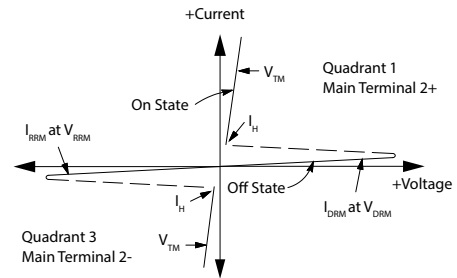

Figure 1. Current Derating
- Ratings apply for $tw = 1$ ms. See Figure 1 for I_{TM} capability for various duration of an exponentially decaying current waveform, tw is defined as 5 time constants of an exponentially decaying current pulse.
- Ratings apply for $t_w = 1 \text{ ms}$. See Figure 1 for I_{TM} capability for various durations of an exponentially decaying current waveform. t_w is defined as 5 time constants of an exponentially decaying current pulse.